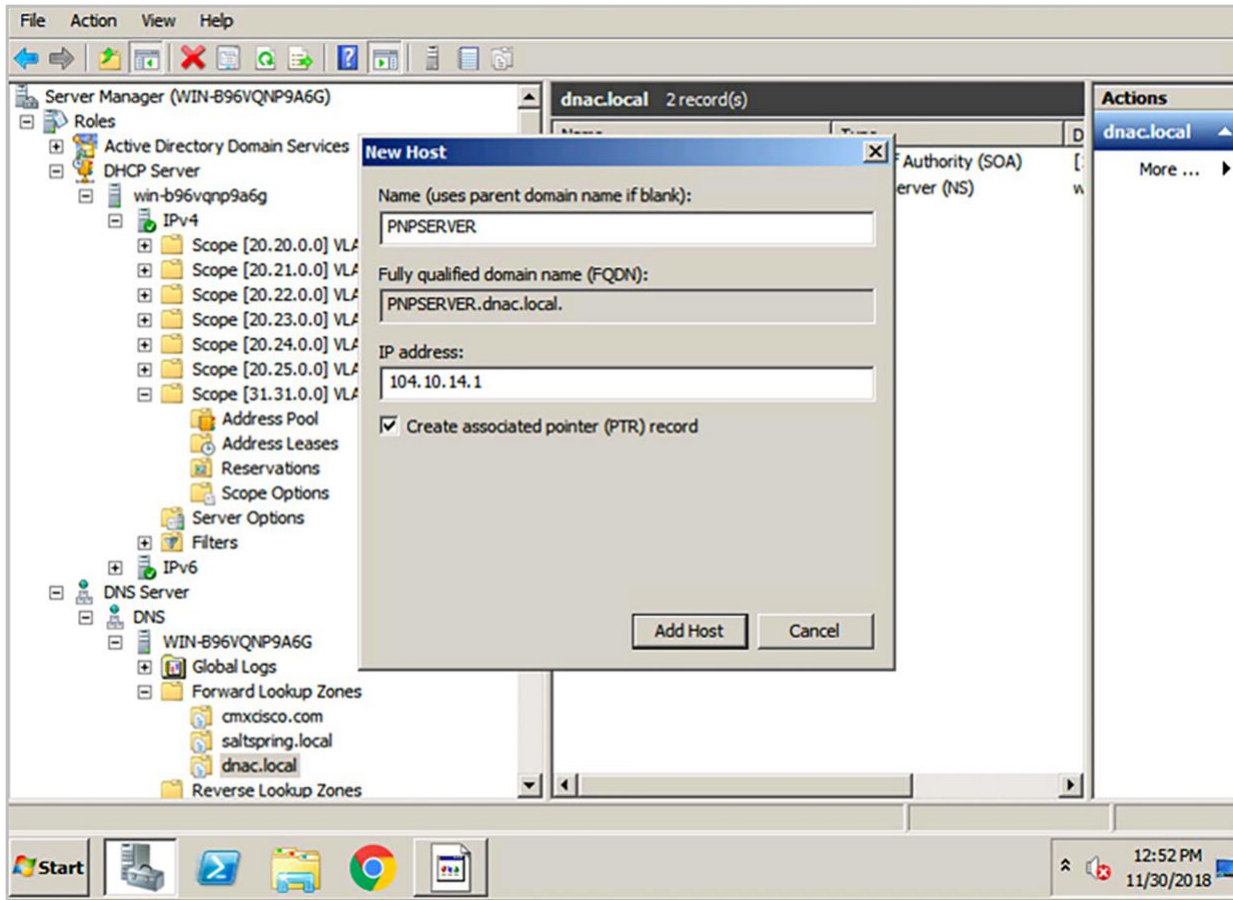

Figure 30.
- You can create a host record on the DNS server for the domain with the name PNPSEVER and the IP address of Cisco DNA Center (Figure 30).
- If Cisco DNA Center has a custom or Certificate Authority (CA) signed certificate, the certificate must contain the PnP FQDN string in the SAN DNS entries. Make sure Cisco DNA Center has a domain name configured, because if Cisco DNA Center is installed without a domain name, DNS-based discovery will fail.